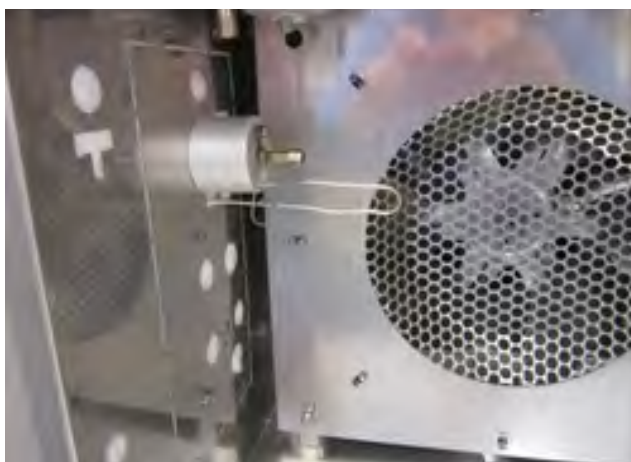

Figure 33 Install nutwarmer cup over the mug adapter inside the oven
- 2 Install the nutwarmer cup into the nutwarmer cup assembly and install over the mug adapter on the μ ECD inside the oven. See Figure 33.